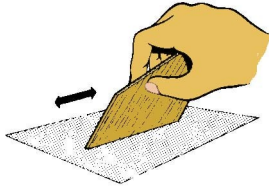

Figure 4
- **Step 6** Cut out all of the fins from 3/32" thick sheet stock. Use 400-grit paper to sand the flat surfaces of all the pieces, and to round over all of the **outer** edges. Do not round over the **root edges** of the fins. As shown in Figure 4, square up the root edges so that the glue surface is as flat as possible with respect to the body tube.